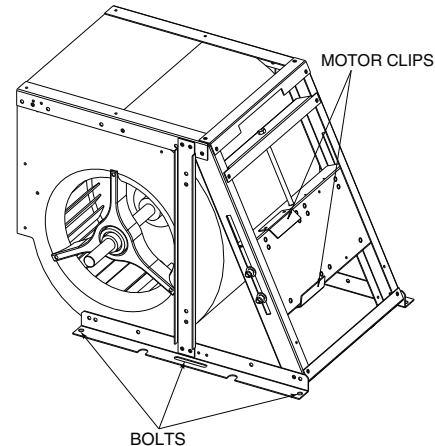

Fig. 9 — Removing Blower Assembly
4. Remove 2 motor clips and reattach to opposite side. See Fig. 9.
5. Unbolt (3 per side) complete housing assembly. See Fig. 9.